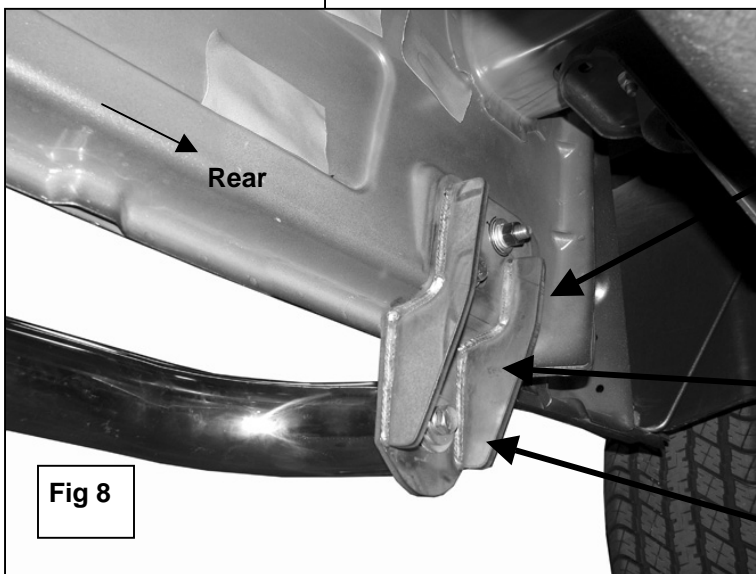

Fig 8
8. Select the passenger side rear Mounting Bracket. Position the Mounting Bracket onto the installed Bolt and Nut Plate. Secure it with (1) 12mm Flat Washer, (1) 12mm Lock Washer and (1) 12mm Hex Nut, **(Figure 8)**. Do not tighten at this time. Rotate the Bolt and Nut plate until the Nut end lines up with the remaining hole in the Mounting Bracket and body. Thread (1) 10mm x 35mm Hex Bolt, (1) 10mm Flat Washer and (1) 10mm Lock Washer into the threaded nut. Snug but do not tighten hardware at this time.
9. Next, select the passenger sidebar and fasten it to the front Mounting Bracket with the included (1) 1/2" x 2" Hex Head Bolt, (1) 1/2" Lock Washer, and (1) 1/2" Flat Washer **(Figure 8)**. Do not tighten at this time. Repeat this step for rear Sidebar mounting.